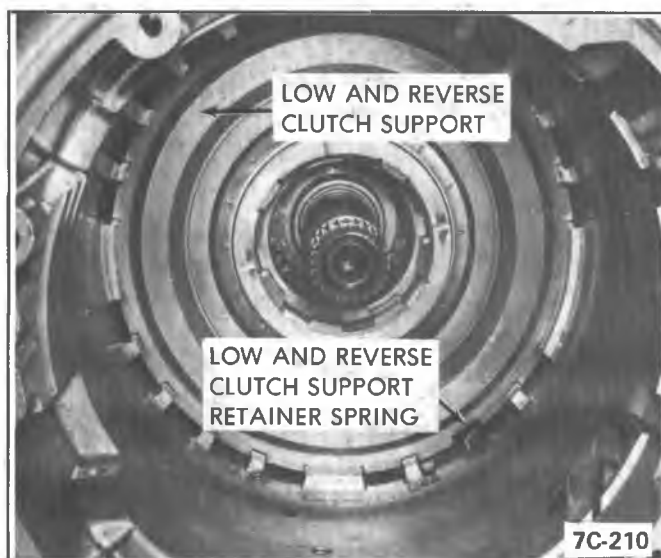

Figure 7A3-122 Low and Reverse Clutch Support
4. Install low and reverse clutch support to case retaining ring. See Figure 7A3-121.